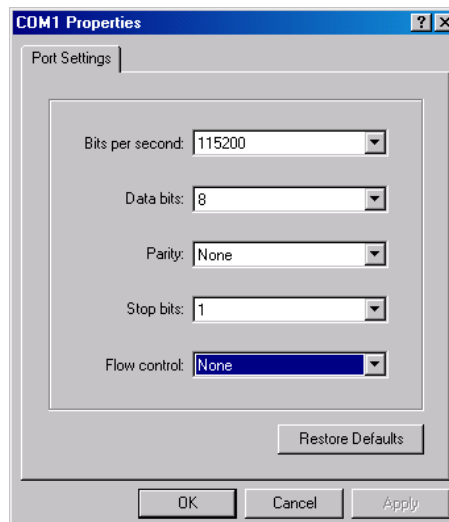

Figure 6-7 Setting port property
3. In the Connect To interface, choose the serial port being used (such as 'COM1'), and click OK, as shown in Figure 6-7.
4. Set the communication parameters as shown in Figure 6-7 and click OK.